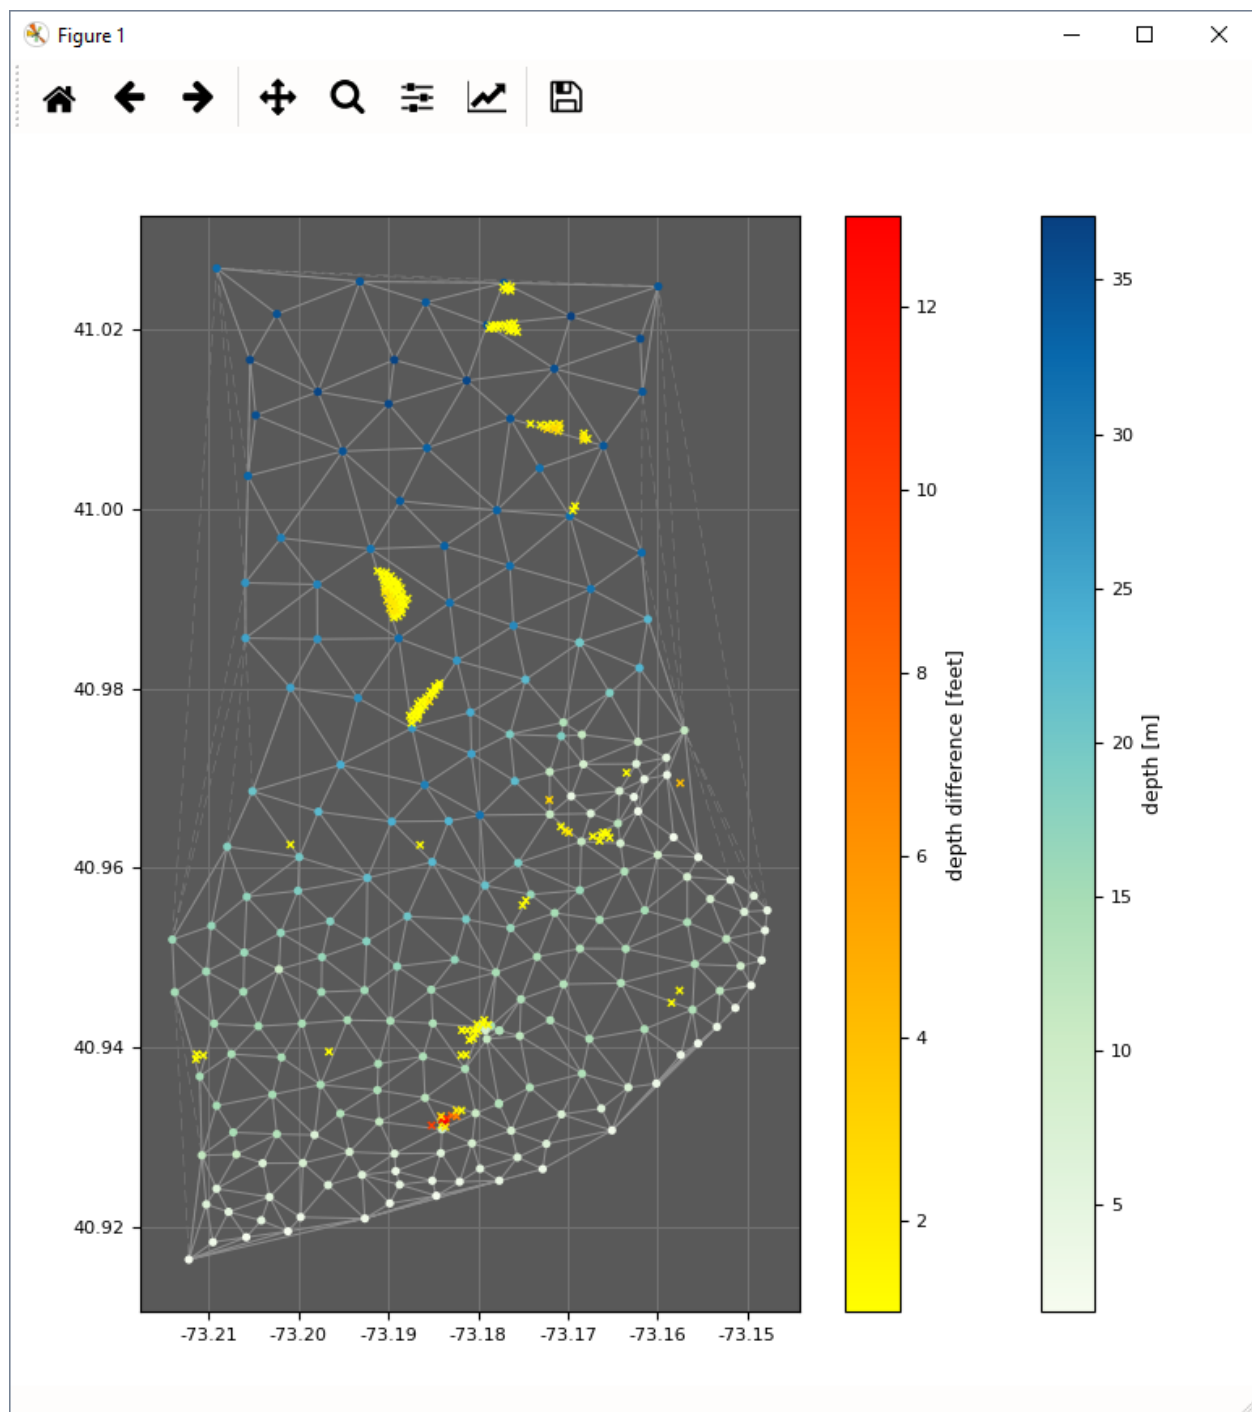

Fig. 2.43: Triangle rule's output display.
- After executing, the results are also shown graphically (Fig. 2.43). Chart-scale soundings are colored by depth, and flagged survey-scale soundings that may not be adequately represented are colored by their discrepancy.